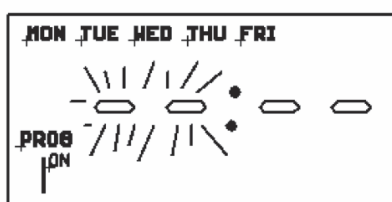

Figure B-7: Setting 'ON' / 'OFF' times (5 + 1 + 1 day operation)
3. Once the desired day grouping is selected, press 'PROG' button to move onto programming ON/OFF times. Display will show PROG 1 ON, and the hour digits flashing (24 hour clock). Refer to Figure B-7.